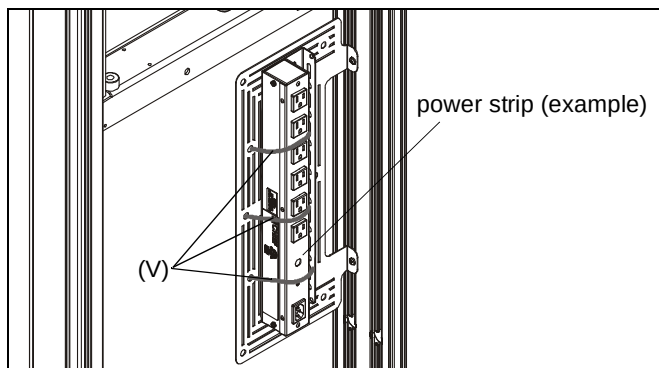

Figure 4
5. Install components to component bracket as desired using cable ties (V) or screws. (See Figure 4)